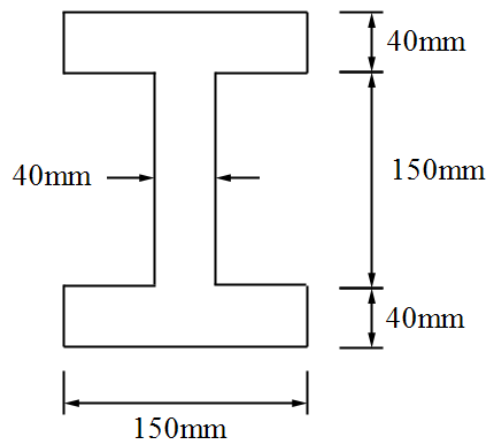

Figure B2(a) / Rajah B2(a)
- (a) A cross section of simply supported beam is shown in **Figure B2(a)**. Calculate bending stress for this beam. Given the neutral axis from bottom section, \bar{y} is 115mm and maximum moment is 660×10^6 Nmm.